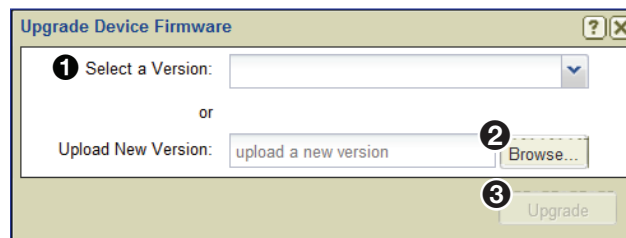

Figure 43. Upgrade FW Dialog
Click **Upgrade** (see figure 31 on page 43) to open the **Upgrade Device Firmware** dialog box used to upgrade the firmware of one or more VN-Matrix devices (see figure 43).
3. Select the desired version from the **Select a Version** drop-down list (see figure 43, **1**) and click **Upgrade** (**3**).
3. Click **Browse** (see figure 43, **2**) and navigate to the appropriate location of the firmware. When the firmware is selected, it is uploaded to the VNM EC 200.
- After the proper firmware is uploaded, select the version from the **Select a Version** drop-down list (see figure 43 on page 62, ❶) and click **Upgrade** (❸).